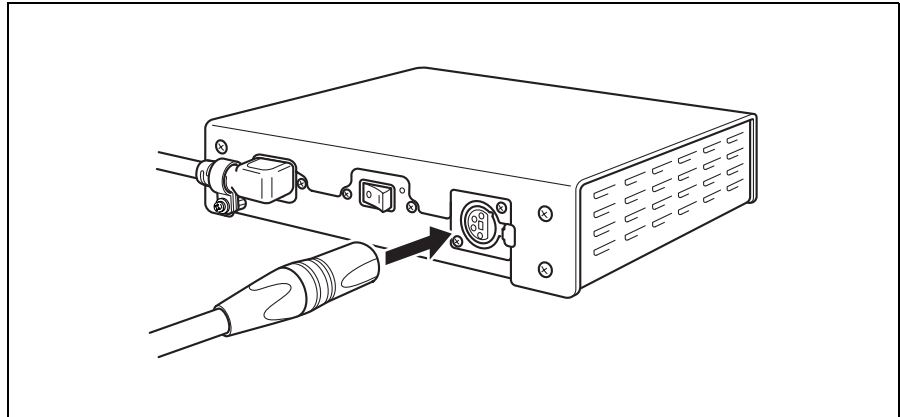

Figure 3.2
2. Slide the supplied DC cord into the DC OUT terminal on the AC adapter until it is locked in place (see Figure 3.2).